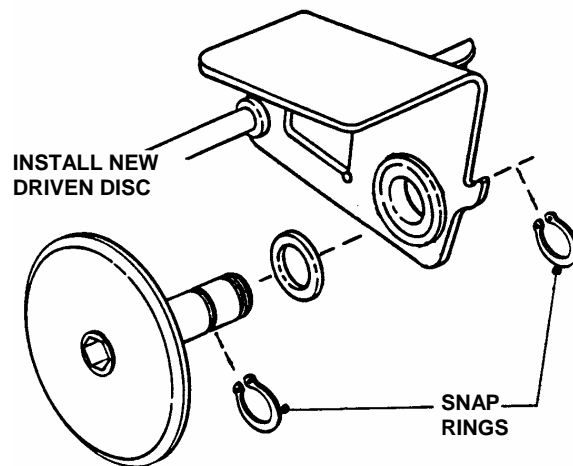

FIGURE 4.13
3. Remove the two retaining rings which secure the rubber driven disc to the driven disc assembly. See Figure 4.13.
3. Remove both snap rings that secure rubber driven disc hub to thrust plate. See Figure 4.13.